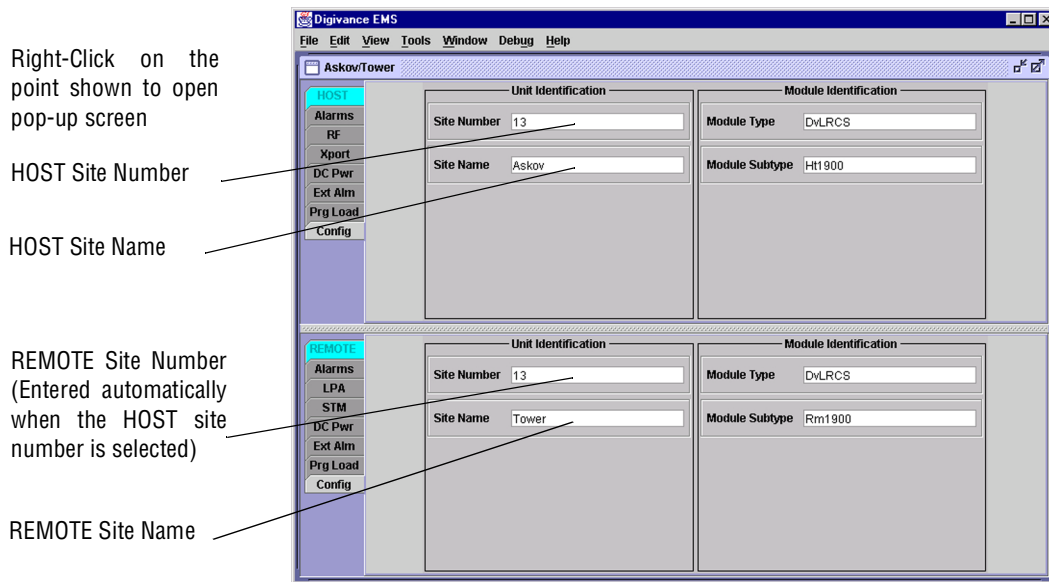
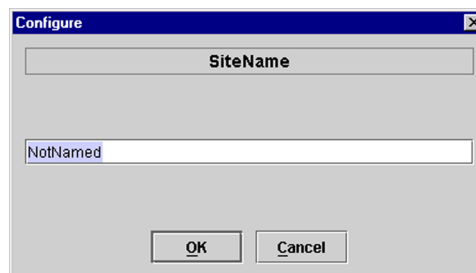

Figure 4-6. HOST and REMOTE Config Displays
Figure 4-7. HOST Site Name Pop-Up Screen
1. Click on the **HOST Config** tab and on the **REMOTE Config** tab. The **HOST Config** display and the **REMOTE Config** display will open within the DEMS main window as shown in Figure 4-6.
2. Right-click on the **HOST Site Name** field (see Figure 4-6). The **Site Name** pop-up screen will open as shown in Figure 4-7. Enter a unique name for the HOST. The name may be up to 32 characters long and must not contain any spaces. The name may include numbers, punctuation, and upper or lower case letters and must always begin with a letter. Click on OK to close the screen and make the changes take effect.
3. Right-click on the **HOST Site Number** (see Figure 4-6). The **Site Number** pop-up screen will open. Enter any number between 1 and 24 and then click on OK to close the screen and make the changes take effect.
4. Check the **REMOTE Site Number** field (see Figure 4-6). The **REMOTE Site Number** does not have to be entered. When the **HOST Site Number** is entered, the system will automatically enter the same number for the **REMOTE Site Number**.
5. Right-click on the **REMOTE Site Name** field (see Figure 4-6). The **Site Name** pop-up screen will open. Enter a unique name for the **REMOTE**. The name may be up to 32 characters long and must not contain any spaces. The name may include numbers, punctuation, and upper or lower case letters and must always begin with a letter. Click on OK to close the screen and make the changes take effect.